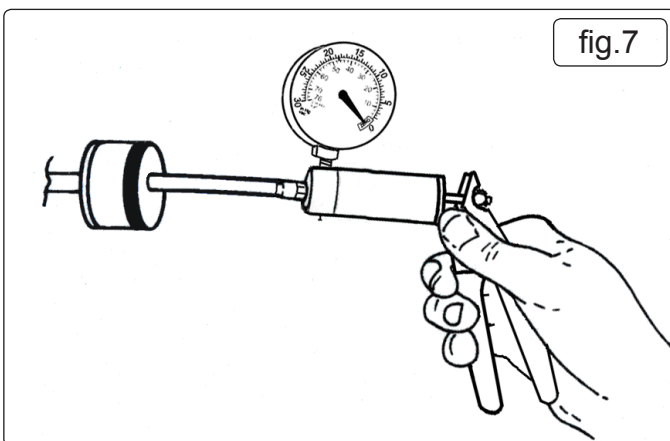

fig.7
7.1.2. To test the function of the valve remove it from the circuit. Attach the VS4021 vacuum tester (fig.7) and operate pump to apply vacuum. In one direction the valve should hold vacuum and in the opposite direction it should not.